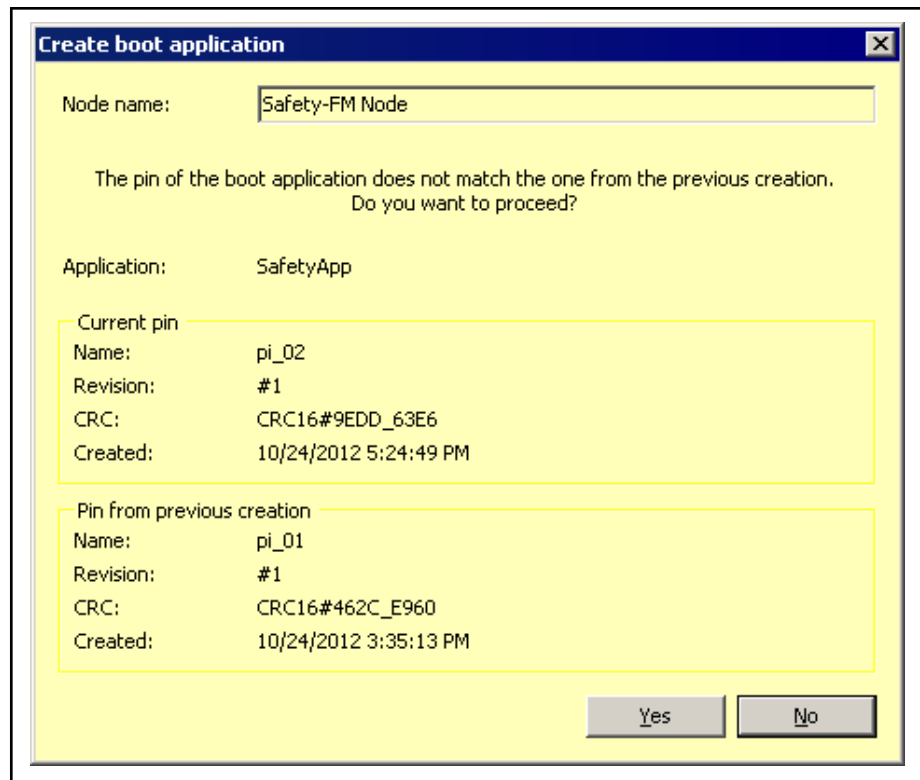

Fig. 8-7: Create boot application with different pin
- The application is consistent with the pin, however not with the pin of the latest boot application that was created from this project (see fig. 8-7 "Create boot application with different pin" on page 122)